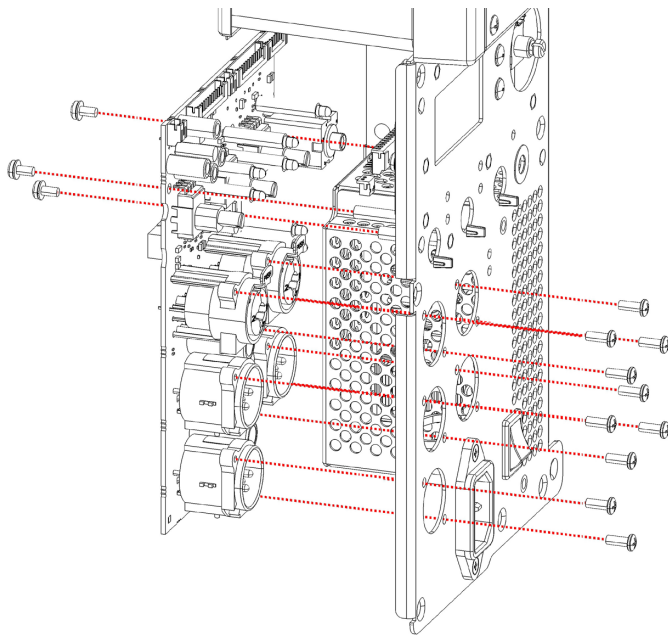

Figure 6.3.2 - Input/DSP board assembly to chassis front plate
5. Remove the 10 plastite screws that secure the XLR connectors to the front panel as shown in Figure 6.3.2.
6. Remove the 3 machine screws that secure the input/DSP PCB to the chassis standoffs as shown in Figure 6.3.2.
3. Fasten the 3 machine screws that secure the input/DSP PCB to the chassis standoffs as shown in Figure 6.3.2.
4. Fasten the 10 plastite screws that secure the XLR connectors to the front panel as shown in Figure 6.3.2.